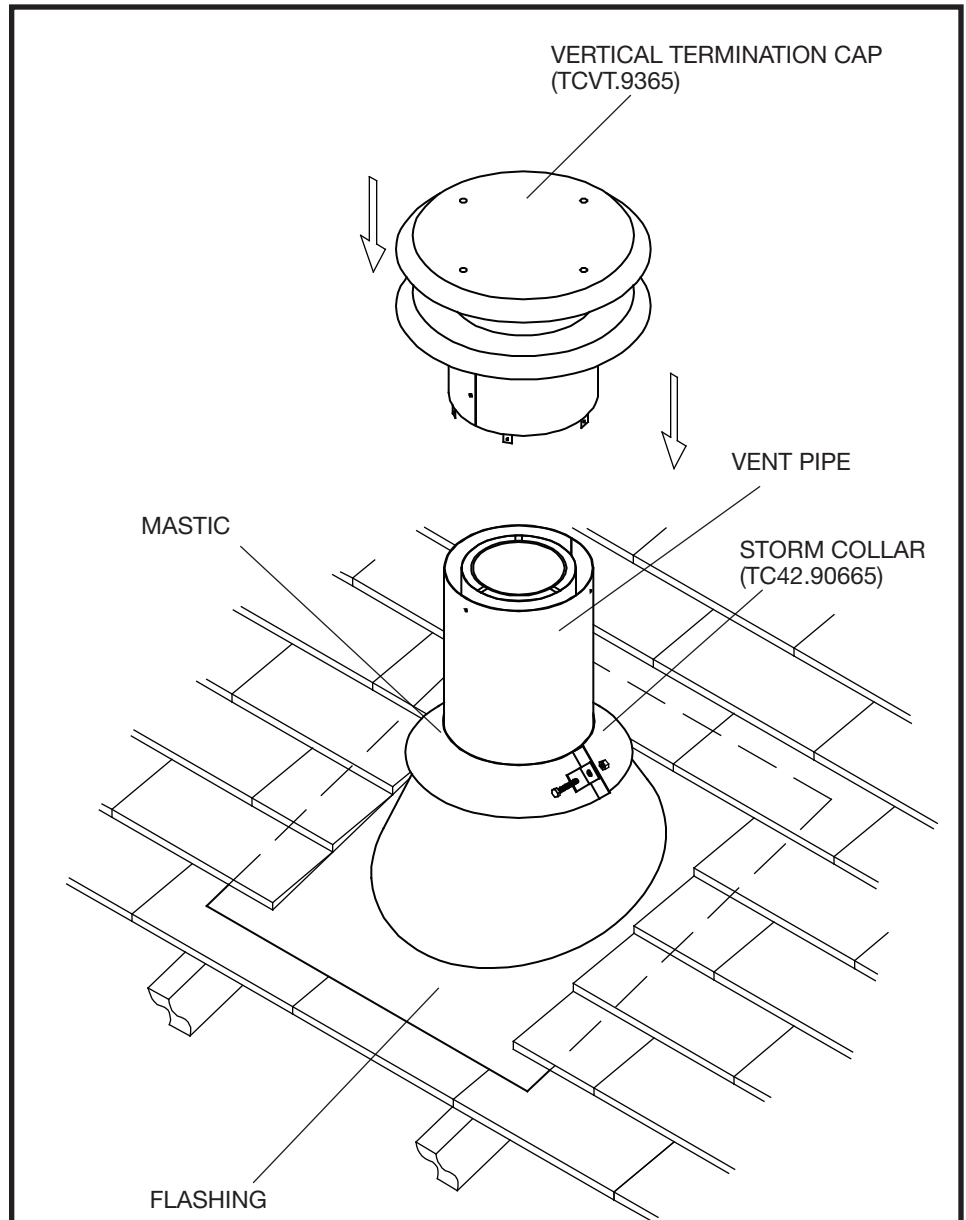

Figure 45: TC36 Roof vent terminal.
1. Place the roof flashing over the vent pipe, secure and seal it to the roof using the methods and materials appropriate for the type of roof on the building. Shingle roof example shown (Figure 45).
2. Place the storm collar down over the vent pipe until it is level. Tighten storm collar for a snug fit. Apply a thick horizontal ring of mastic around the pipe at top of the storm collar (Figure 45).
3. Lower the roof vent terminal cap over the vent pipe and secure in place with screws provided (Figure 45). Seal screw heads and joints with caulking to prevent any moisture entering the venting system.